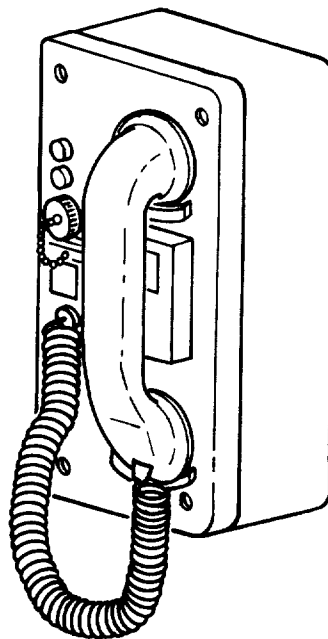

Figure 1-6. Telephone TA-312()/PT
l. *Telephone TA-312()/PT*. Refer to figure 1-6. A telephone set TA-312()/PT is mounted on the electrical duct extension of the corner console, on the cabinet